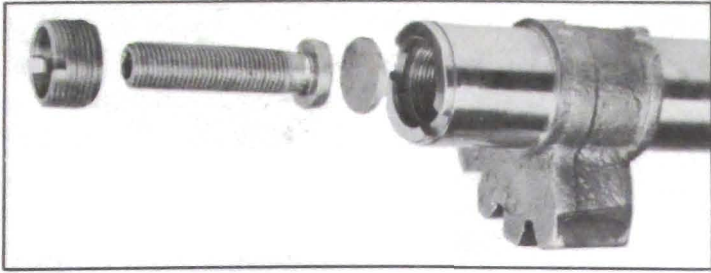

Figure 8-23—Lash Adjusting Screw
2. Install new adjusting screw retainer, turning it down so adjusting screw is free to turn, but has no perceptible end play. Stake retainer securely into slot in pitman shaft in two places. See Figure 8-23.